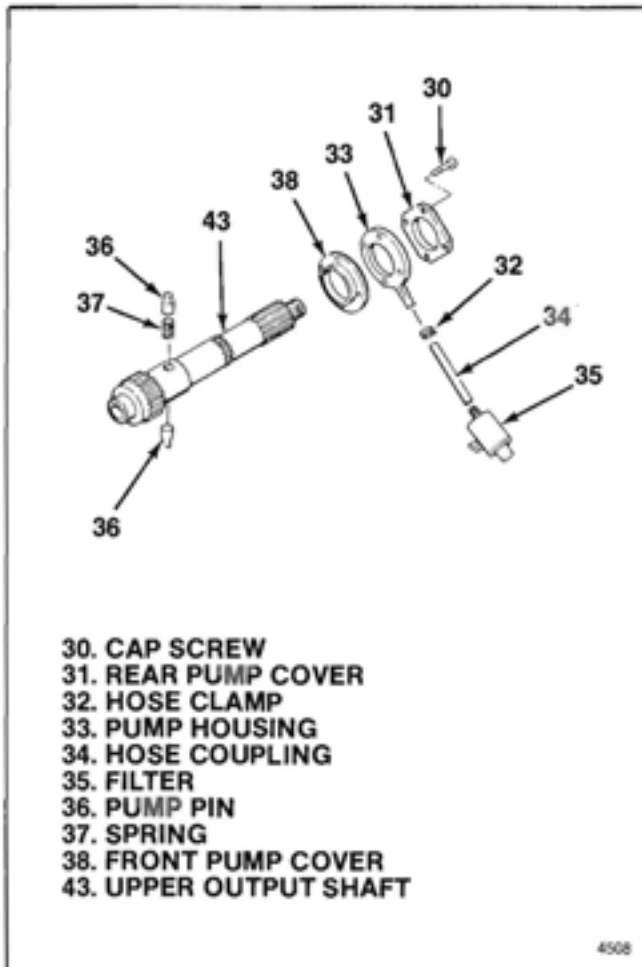

Figure 3-5. Pump Parts
**3-11. REMOVAL OF OIL PUMP PARTS.** From remaining transfer case assembly (30 through 85) remove the following (see figure 3-5):
- a. Remove four capscrews (30) and slide front pump cover (31) off upper output shaft (43).
- b. Loosen hose clamp (32) and separate hose coupling (33) from pump housing (34). Slide pump housing off upper output shaft (43).
- c. Remove hose clamp (32), hose coupling (34) and filter (35).
- d. Remove two pump pins (36) and spring (37) from upper output shaft (43).
- e. Slide front pump cover (38) off upper output shaft (43).